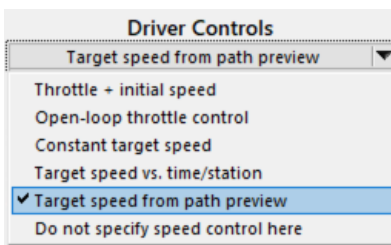

Figure 2. Drop-down list of speed control options.
- ① Speed / Acceleration option. This drop-down list has options for controlling the vehicle speed (Figure 2). If the selected option implies that more information is needed, then a yellow field and/or blue link are also shown.